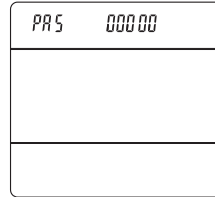

Figure 6-7 Password menu
(2) Password interface (Figure 6-7):
(3) Function setup menu (Figure 6-7):